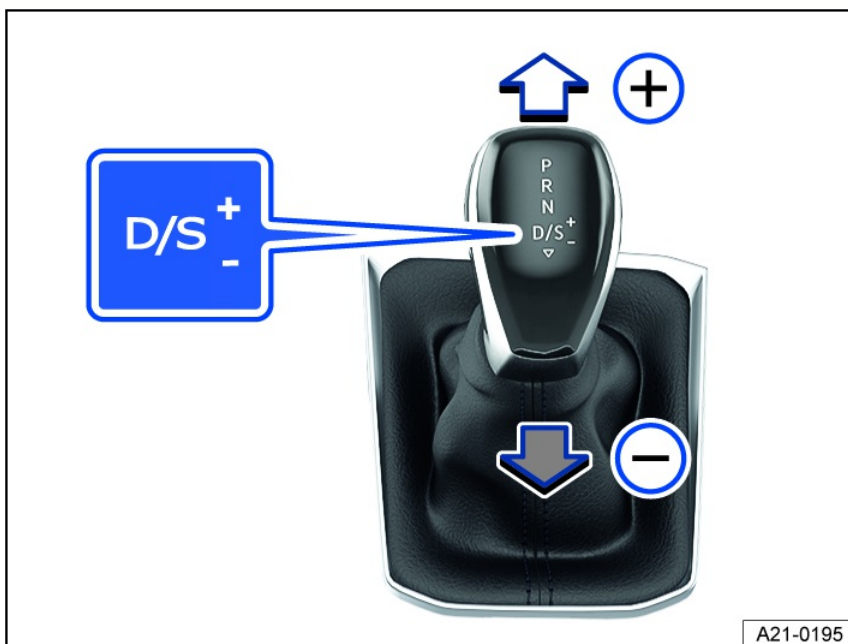

Fig. 122 Selector lever in Tiptronic position.
2. Tap the selector lever forward **+** or to the rear **-** to upshift or downshift fig. 122.